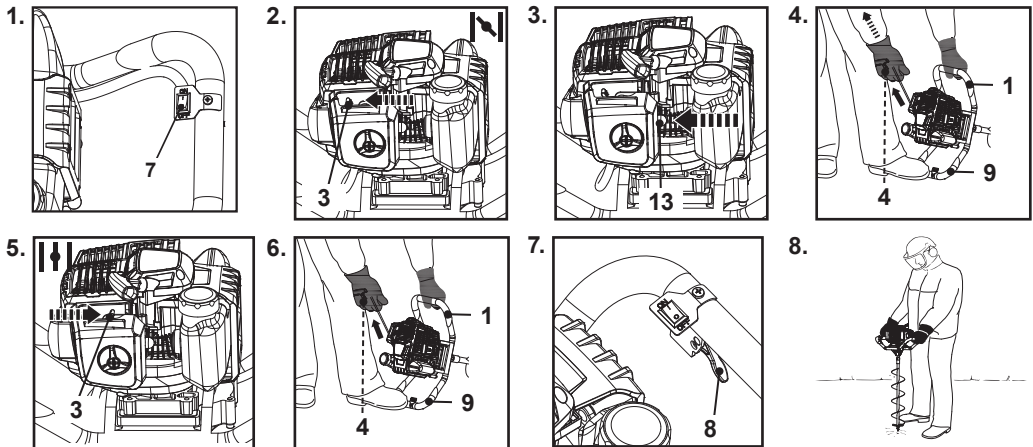

Fig. 8
1. Set the ignition switch (7) on at "I" position (Fig. 8, step 1).
2. Push the choke lever (3) all the way to the left, and the choke lever (3) is now at CLOSE position (Fig. 8, step 2).
3. Press the primer (13) 10 times until the bubble is filled with fuel (Fig. 8, step 3).
4. Place your left foot onto the right handle bar (9) and step down firmly on the ground, then hold the product firmly with your left hand on the left handle bar (1). Your thumb and fingers shall grasp the handle.
5. Pull the recoil starter handle (4) lightly with your right hand until hearing a blasting sound (it usually needs 4 pulls) (Fig. 8 step 4). At this stage the engine still should not start.
6. Push the choke lever (3) all the way to the right, and the choke lever (3) is now at OPEN position (Fig. 8, step 5).
7. Pull the recoil starter handle (4) rapidly with your right hand until the engine starts (Fig. 8, step 6).
9. Once the engine is running smoothly, hold the product firmly with the left hand on the left handle bar (1) and the right hand on the right handle bar (9). Your thumb and fingers shall grasp the handle.
10. Squeeze the throttle trigger (8) to accelerate the engine (Fig. 8, step 7). The drilling tool runs.
11. Operate the product with suitable clothing and a secure stance as illustrated (Fig 8, step 8).
2. Press the primer (13) 10 times until the bubble is filled with fuel (Fig. 8, step 3).
3. Push the choke lever (3) all the way to the right, and the choke lever (3) is now at OPEN position (Fig. 8, step 5).
4. Pull the recoil starter handle (4) rapidly with your right hand until the engine starts (Fig. 8, step 6).
5. Squeeze the throttle trigger (8) to accelerate the engine (Fig. 8, step 7). The drilling tool runs.
6. Operate the product with suitable clothing and a secure stance (Fig 8, step 8).